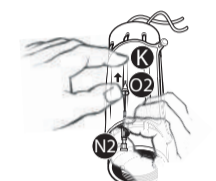

Fig. 15 - Advance Catheter
5. Without moving needle **N2**, slowly advance catheter **O2** further into center of vein **K** (Fig. 15). Continue to apply pressure with your index finger above injection site and remove needle **N2**, leaving catheter **O2** in place (Fig. 16).